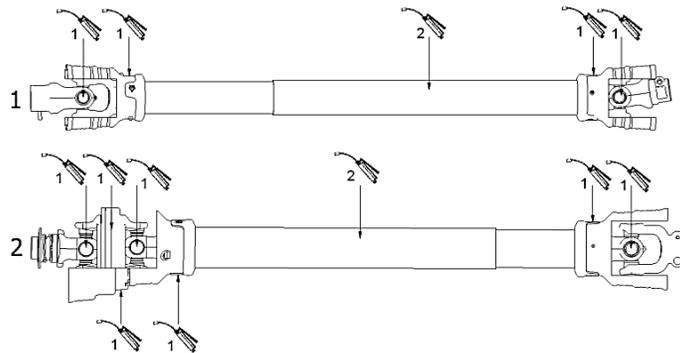
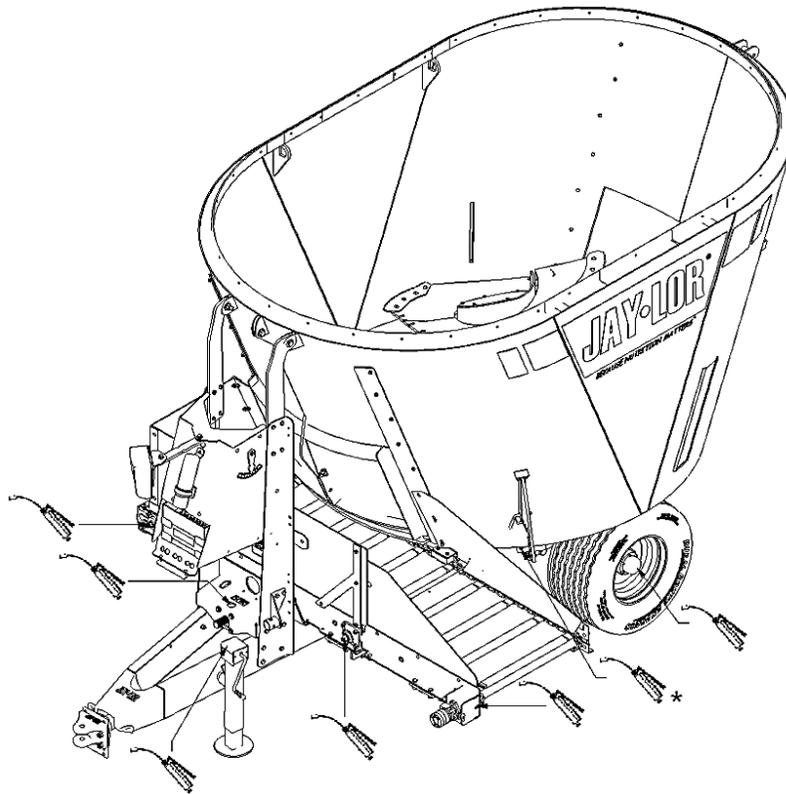
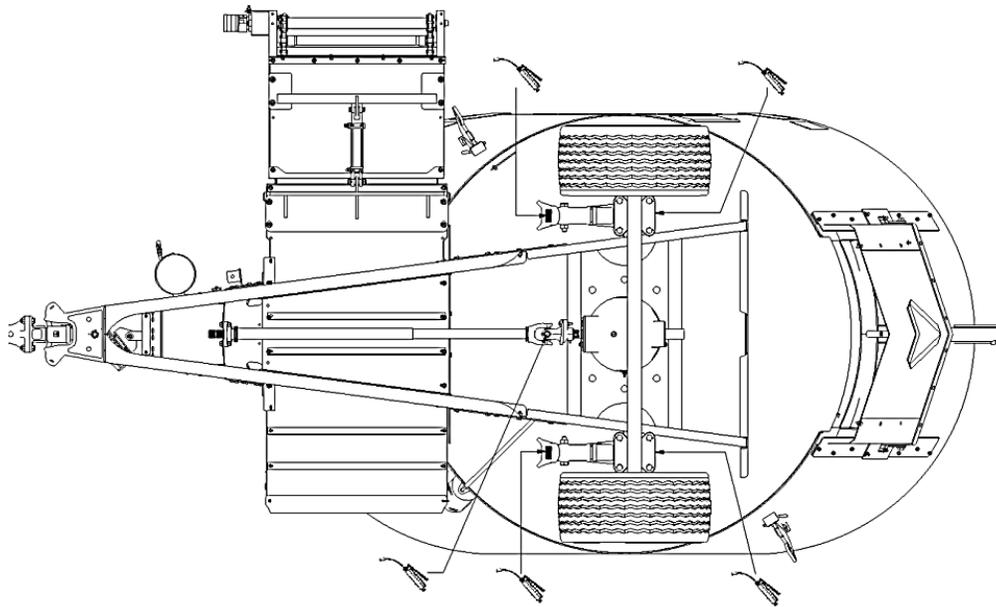

Figure 34 - PTO Shaft Grease Locations
Figure 35 - Grease Points on Single Auger Mixer
Figure 36 - Grease Points Underneath a Single Auger Mixer
- Jaylor mixers are equipped with one driveshaft assembly. Depending on the options specified, grease locations will vary. Grease is required at each cross or 'u'-joint found on the driveshaft. Crosses will require **1 pump every 8 hours or 25 loads**. Refer to **Figure 34**, **Figure 35** and **Figure 36** for typical grease locations